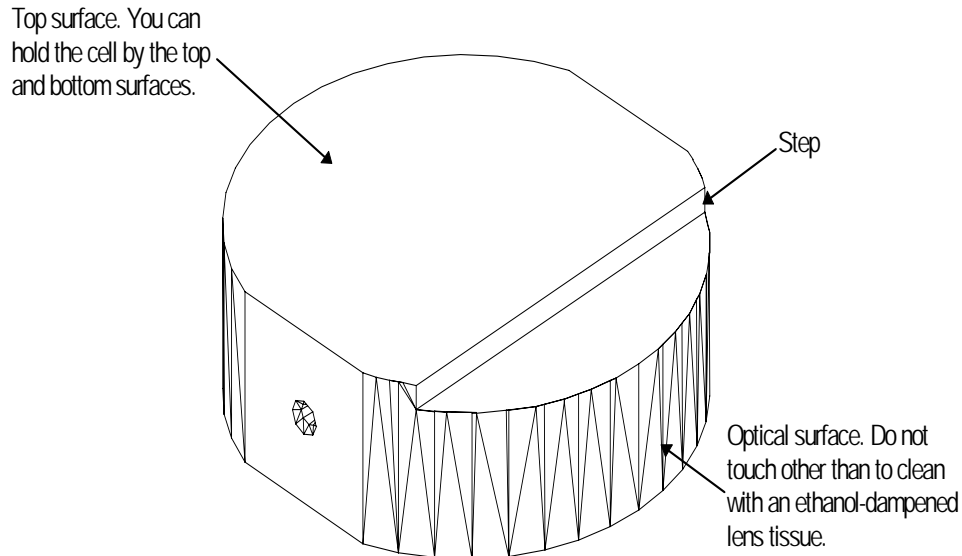

Figure 5-9: Flow cell
3. Clean the outside of the cell. (See Figure 5-9.)